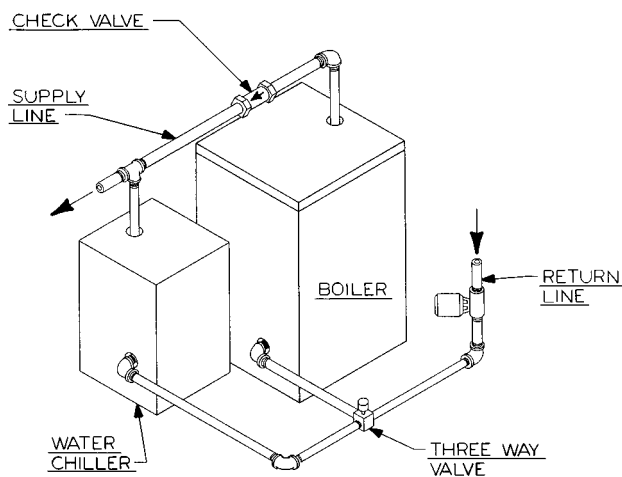

Figure 3.1: Parallel Hook-up with Water Chiller
1. If the boiler is used in conjunction with a chilled medium system, pipe the chiller in parallel with the boiler system. Install flow control valves to prevent the chilled medium from entering the boiler. See Figure 3.1.